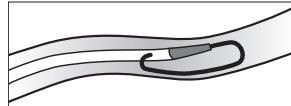

Figure 4
**⚠ Precaution:** If resistance is encountered when attempting to remove guidewire after catheter placement, guidewire may be kinked around tip of catheter within vessel (refer to Figure 4).